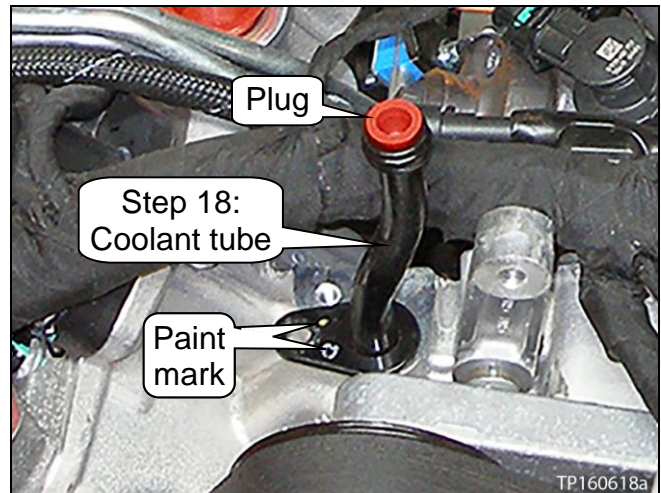

Figure 74
18. Remove the plug, and then remove the EGR bypass valve coolant tube (see Figure 74).
**NOTE:** Make sure the paint mark(s) are facing upward as shown in Figure 74 once the intake manifold is installed.